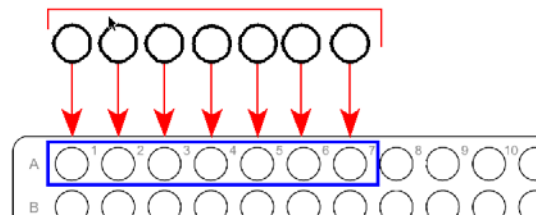

Figure 14 Addition of Fragmentation Master Mix
5. Use a multi-channel P20 pipette to transfer $10\ \mu\text{L}$ Fragmentation Master Mix to each sample (Figure 14). Do not pipet up and down. Do not introduce air bubbles at bottom of tubes.